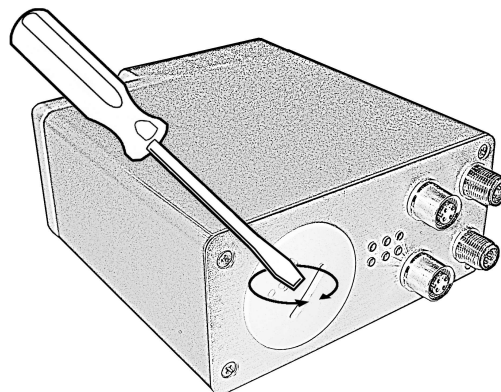

Figure 7: Screw plug for internal access
4.4 Screw plug for internal access (Figure 4 and Figure 7)
The POWERLINK node ID is set via hardware using the DIP A rotary switches located inside the enclosure. To access the DIP A rotary switches please refer to the "4.4 Screw plug for internal access (Figure 4 and Figure 7)" section on page 44.